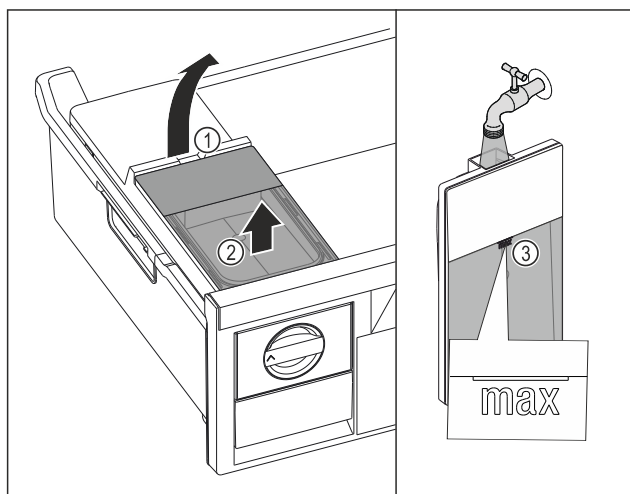

Fig. 150
- Lift the water tank at the recess Fig. 150 (1).
- Remove the water tank by lifting it upwards. Fig. 150 (2)
- Fill the water tank with drinking water up to the mark Fig. 150 (3).